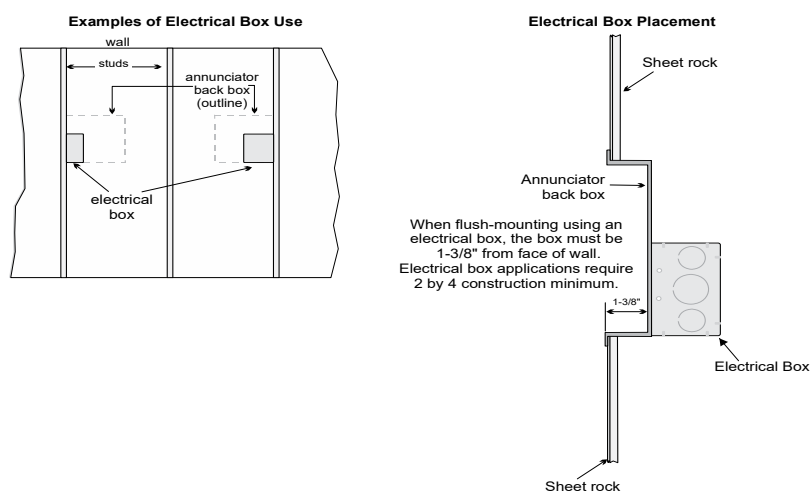

Figure 4.21 Placement of Electrical Box for Flush Mounting
1. Cut a hole in the sheet rock to the following dimensions: 8-1/4" W x 6-5/8"H. If an electrical box is used, the box must be 1-3/8" back from face of wall to accommodate the annunciator (see Figure 4.21).